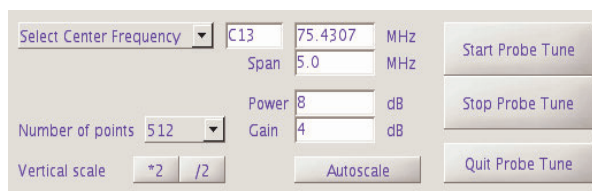

Figure 6. Manual Tuning Panel
4. Select **Start Probe Tune** on the qtune panel see Figure 6.